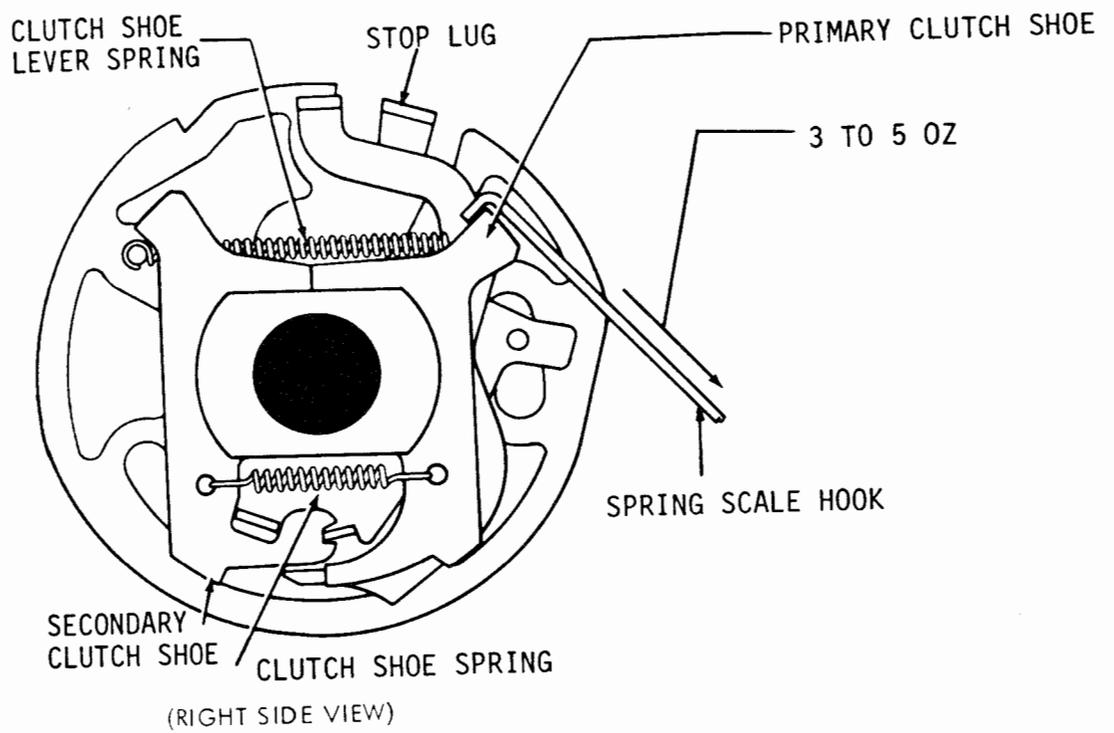

Figure 6-33. Clutch Shoe Spring
- (a) Refer to figure 6-33. clutch drum.
(4) Clutch Latch-Lever Spring (Except Selector). Adjust clutch latchlever spring as follows: